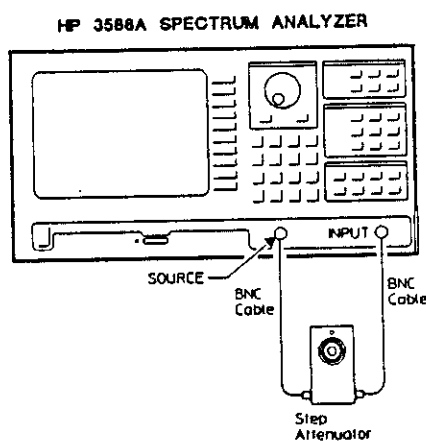

Figure 3-15. Source Dynamic Accuracy Setup
1. Connect the test equipment as shown in figure 3-15.